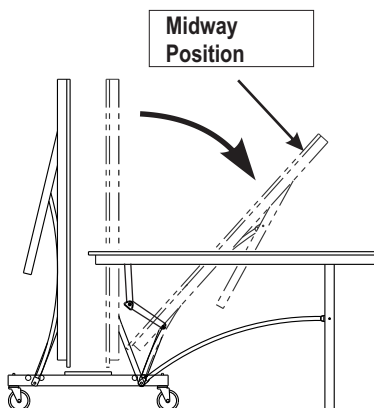

Figure 14A
1. Hold center of top edge. Gently pull outward to midway position. Continue to pull until disengaged from plastic clips and legs rest on the floor as shown in Figure 14A and 14B. Do not leave table partially opened at midway position.